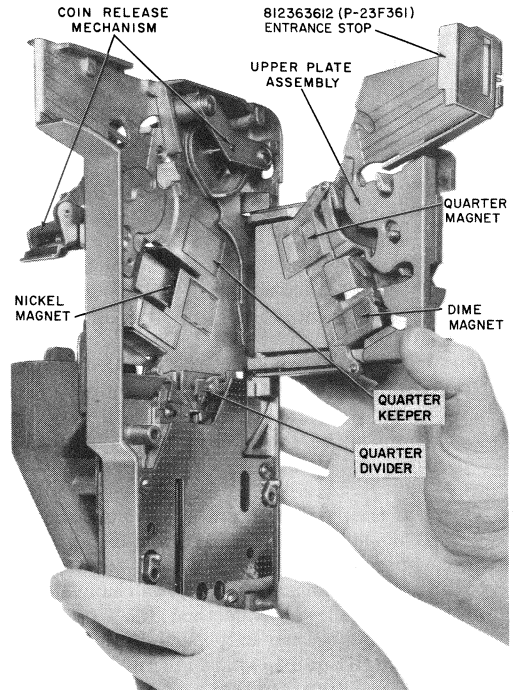
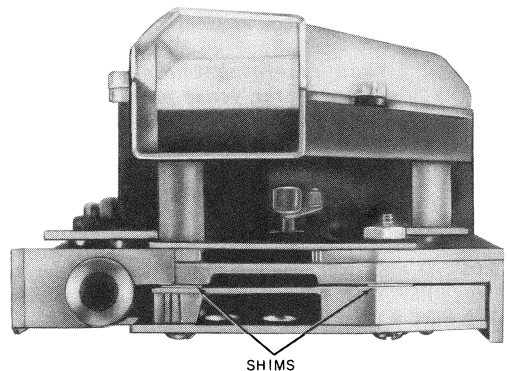

Fig. 39—Chute
Fig. 40—20A Coin Chute (Manufactured Prior to May, 1978) With Dime Opening Shimmed
- (1) Remove coin cover unit (1-type) or open door and faceplate assembly (2-type).
- (2) Remove chute-totalizer.
- (3) Swing upper plate assembly open (Fig. 39).
- (4) Where possible, use an orange stick to remove any foreign objects or stuck coins. Do not use screwdriver. Do not loosen chute assembly screw.
- (5) Clean off any foreign material adhering to chute magnets using a suitable typewriter brush or equivalent.
- (6) Replace 20A coin chute if dime is caught at exist of lower portion of chute (manufactured prior to May, 1978) and chute does not have shims to increase dime exit opening as shown in Fig. 40.